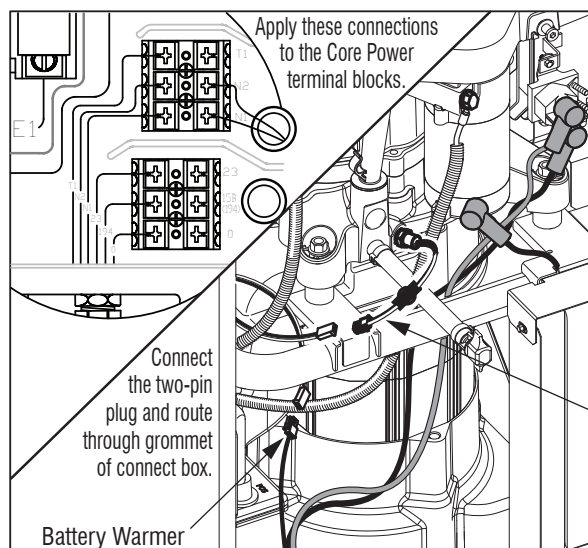

Figure 3
9. Route the wires along frame (Battery side), passing them over the intake boot for the alternator. Pass the wires through the Customer Connect bushing with yellow N1 and N2 wires and bring them to the 240 VAC terminal block (Figure 3).